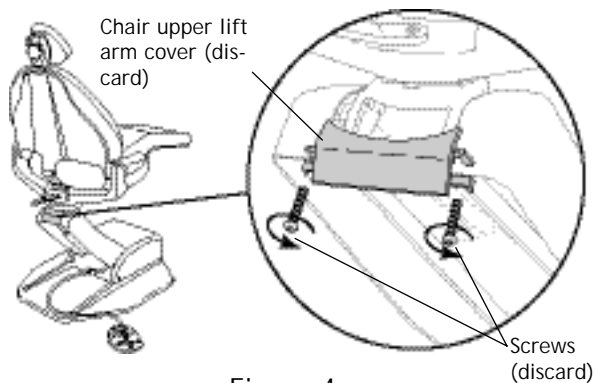

Figure 4
2. Remove and discard the chair upper lift arm cover (see Figure 4).